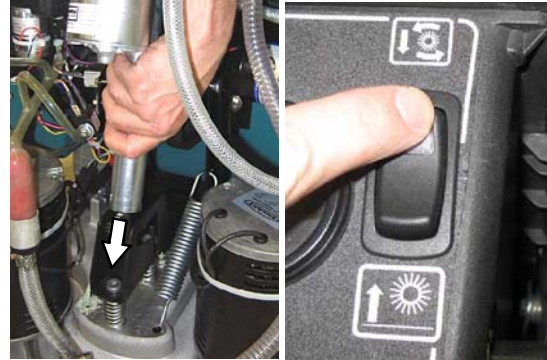

FIG. 7
5. This step may require an assistant. Firmly grip the actuator tube with right hand and press the top of brush switch. As the tube extends, guide it down into the mounting bracket. Release brush switch. (Fig. 7)